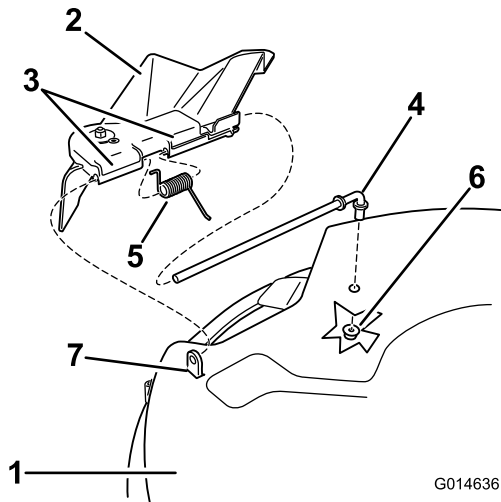
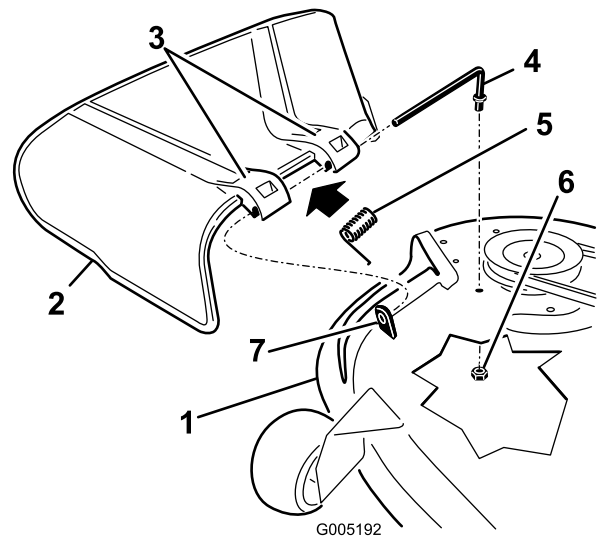

Figure 68
Figure 69
1. Remove the nut (3/8 inch) from the rod under the mower (Figure 68 and Figure 69).
2. Slide the rod out of the short stand-off, spring, and grass deflector (Figure 68 and Figure 69).
4. Replace the grass deflector (Figure 68 and Figure 69).
7. Slide the rod through second grass deflector bracket (Figure 68 and Figure 69).
9. Secure the rear end of the rod into the mower with a nut (3/8 inch) as shown in Figure 68 and Figure 69.